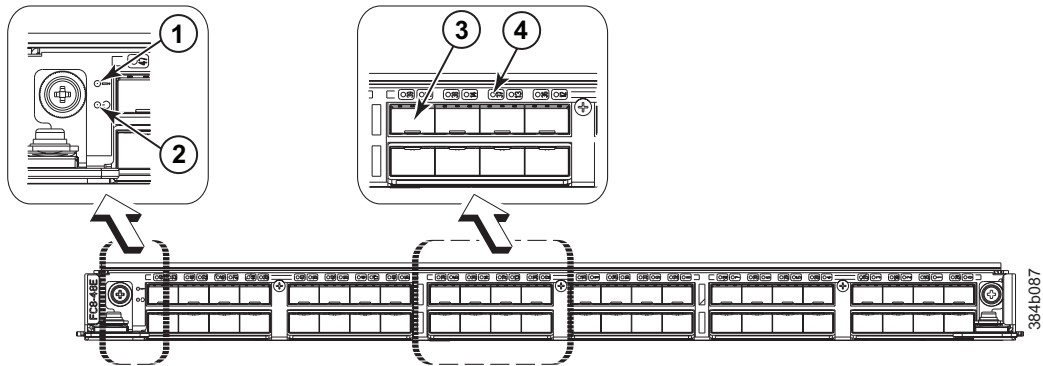

Figure 23. FC8-48E port blade
- Figure 23 on page 59 illustrates the FC8-48E port blade